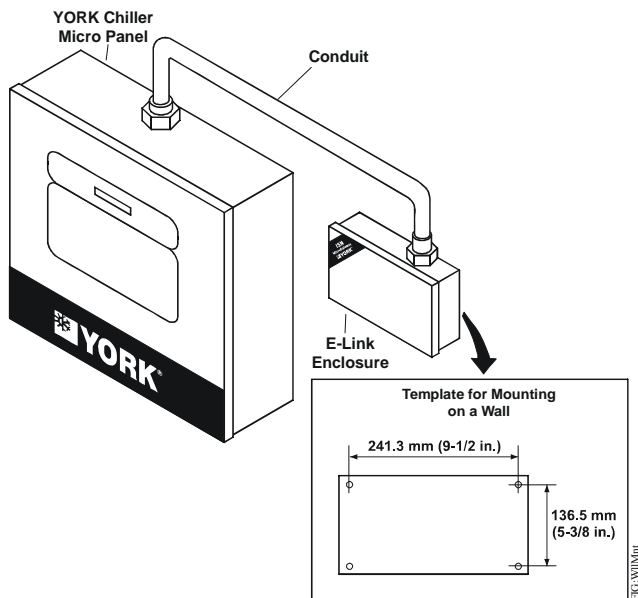

Figure 5: Wall Mounting
3. Select a suitable location and mark the anchor points. Ensure that the enclosure is level. See Figure 5 for an example.